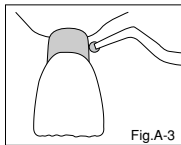

Fig.A-3
- a) Take the mixed material using a suitable placement instrument or brush and apply to the tooth surface (Fig.A-3). Then use a brush to spread a thin film of GC Fuji VII directly over the root surface or hypersensitive area or over the occlusal surface and into the pits and fissures.